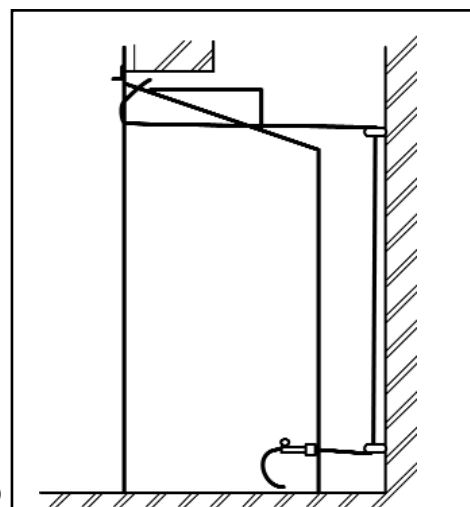

Figure 19. Cable route
6. Thread the cables through the eyebolts. Return the cables through the holes near the bottom of the hotbox back panel (See figure 19) (**For precast or clay block flue systems return the cables through the slotted holes in the side of the hotbox.**)